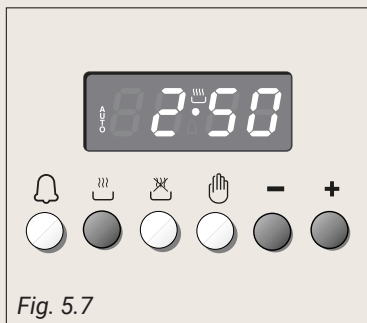

Fig. 5.7
1. Set the length of the cooking time by pushing the  button and the **+** button to advance, or **-** to go backwards if you have passed the desired time (fig. 5.7).